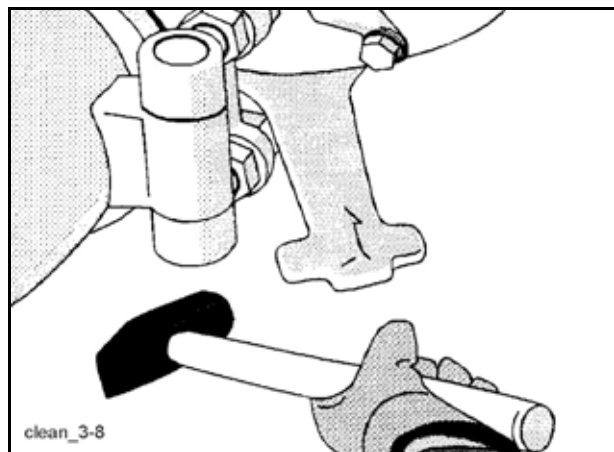

Fig. 238 Open cleaning flap
- Open the cleaning flap (**Fig. 238**) under the rock valve housing.